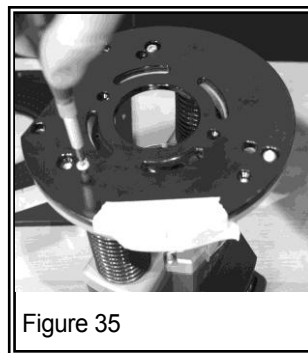

Figure 35
3. Remove the router sub-base (see Figure 35).